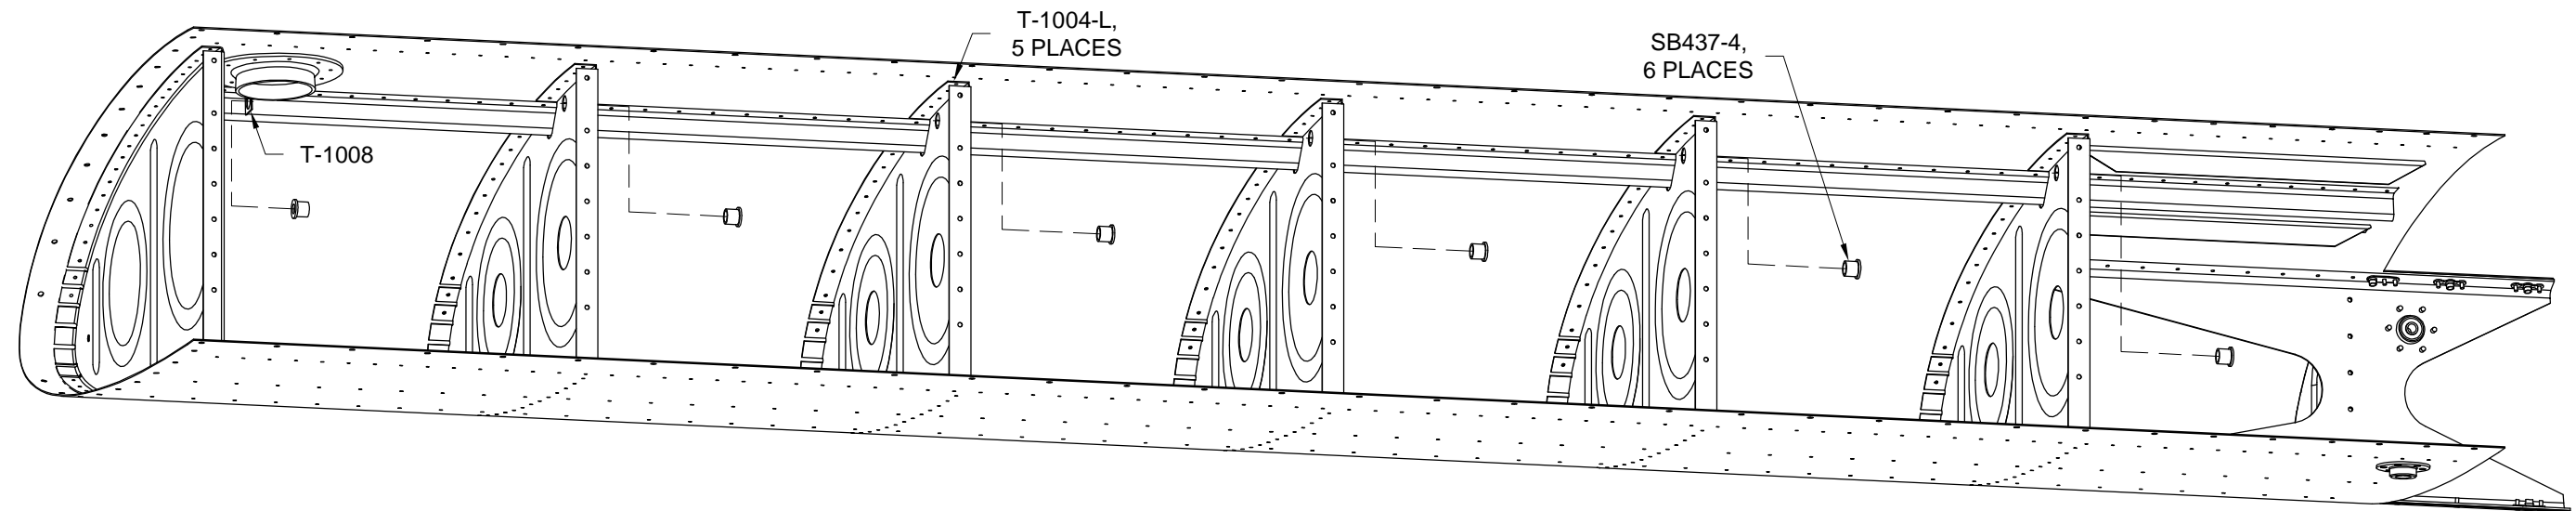

FIGURE 1: TANK VENT SNAP BUSHING INSTALLATION
Step 1: Install Snap Bushings into holes pre-punched in the T-1004 Tank Interior Ribs and T-1008 Vent Clip as shown in Figure 1.